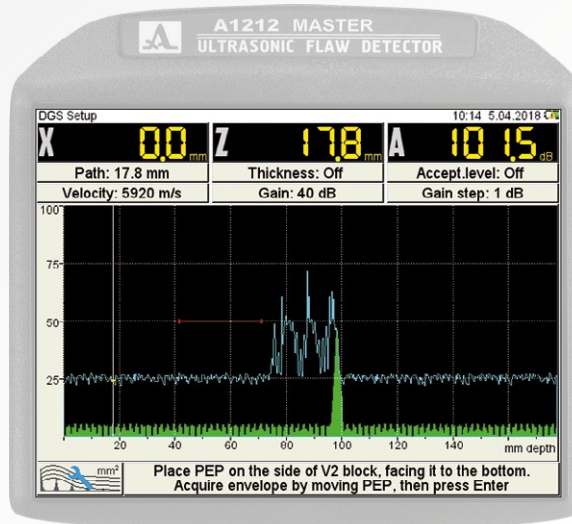

Figure 21
- select the line with required type of DGS amplitude correction and press **Enter**. A DGS configuration window will be opened (Figure 21).